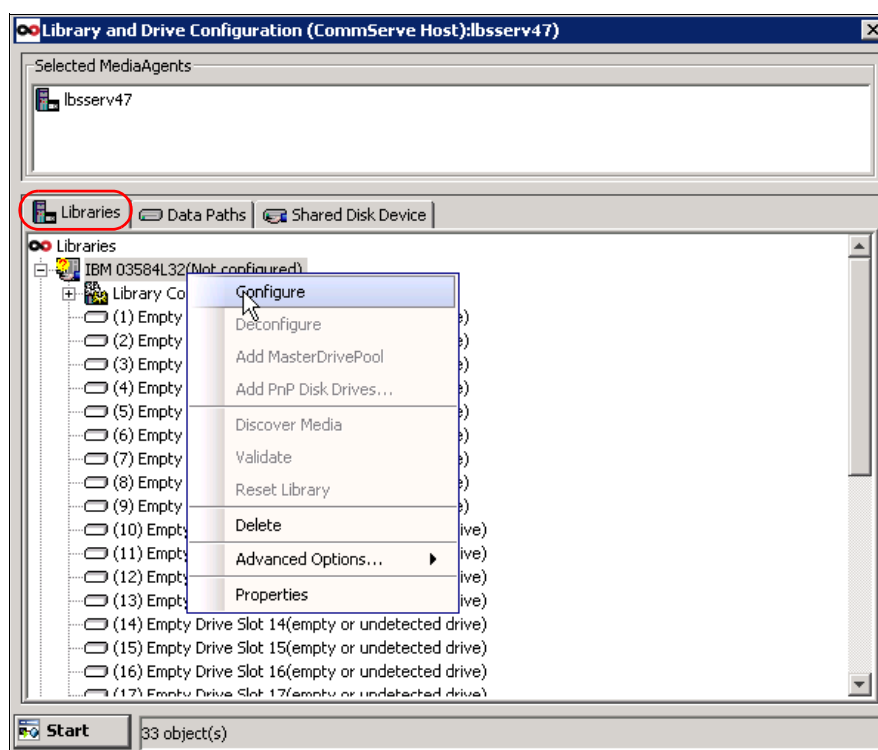

Figure 19-7 Configure the library robotics
9. In the General tab, open the current node and navigate to the **Libraries** overview (Figure 19-7). Right-click the unconfigured tape library tag and click **Configure** from the menu.